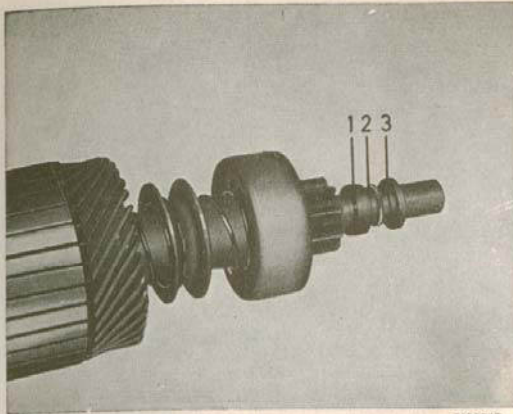

Fig. 10-15. Pinion, locking ring and nut
6. Remove the stop washers on the rotor shaft. The thin washers (axial adjusting washers) and washer (3, Fig. 10-15) are removed by being pulled straight off the shaft. The thick washer (1, Fig. 10-15) should be knocked in $3/16$ – $5/16$ " (5–8 mm) on the shaft so that the lock ring (2, Fig. 10-15) can be removed, after which the washer is pulled off the shaft.